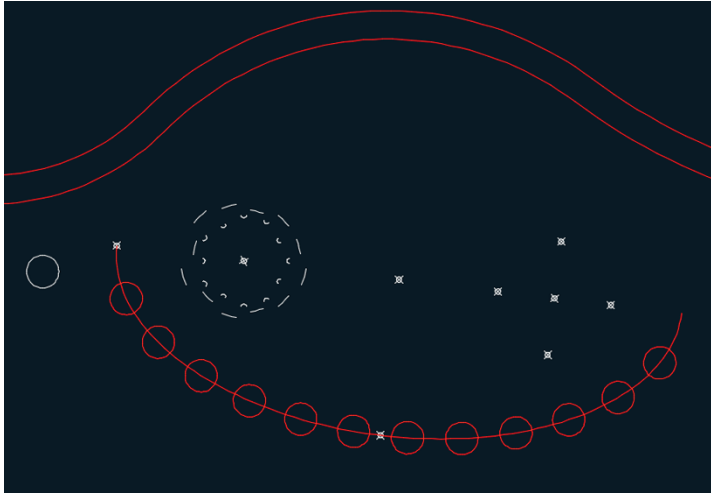

FIGURE 5.11 Dividing an elliptical arc with blocks
9. Type **13** (for the number of segments), and press Enter. Twelve "shrubs" appear along the elliptical arc (see Figure 5.11).